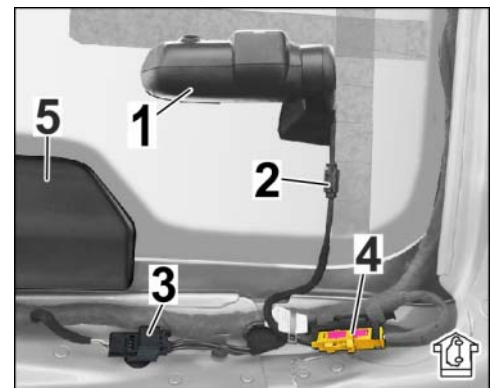

Figure 19 (example 9YB)
3.4.3 Dismantle video signal connector from holder (⇒ *Figure 19 (example 9YB)-4-*).
- 3.4.4 Connect plug connection for power supply pre-fitting. (⇒ *Figure 19 (example 9YB)* -3-)